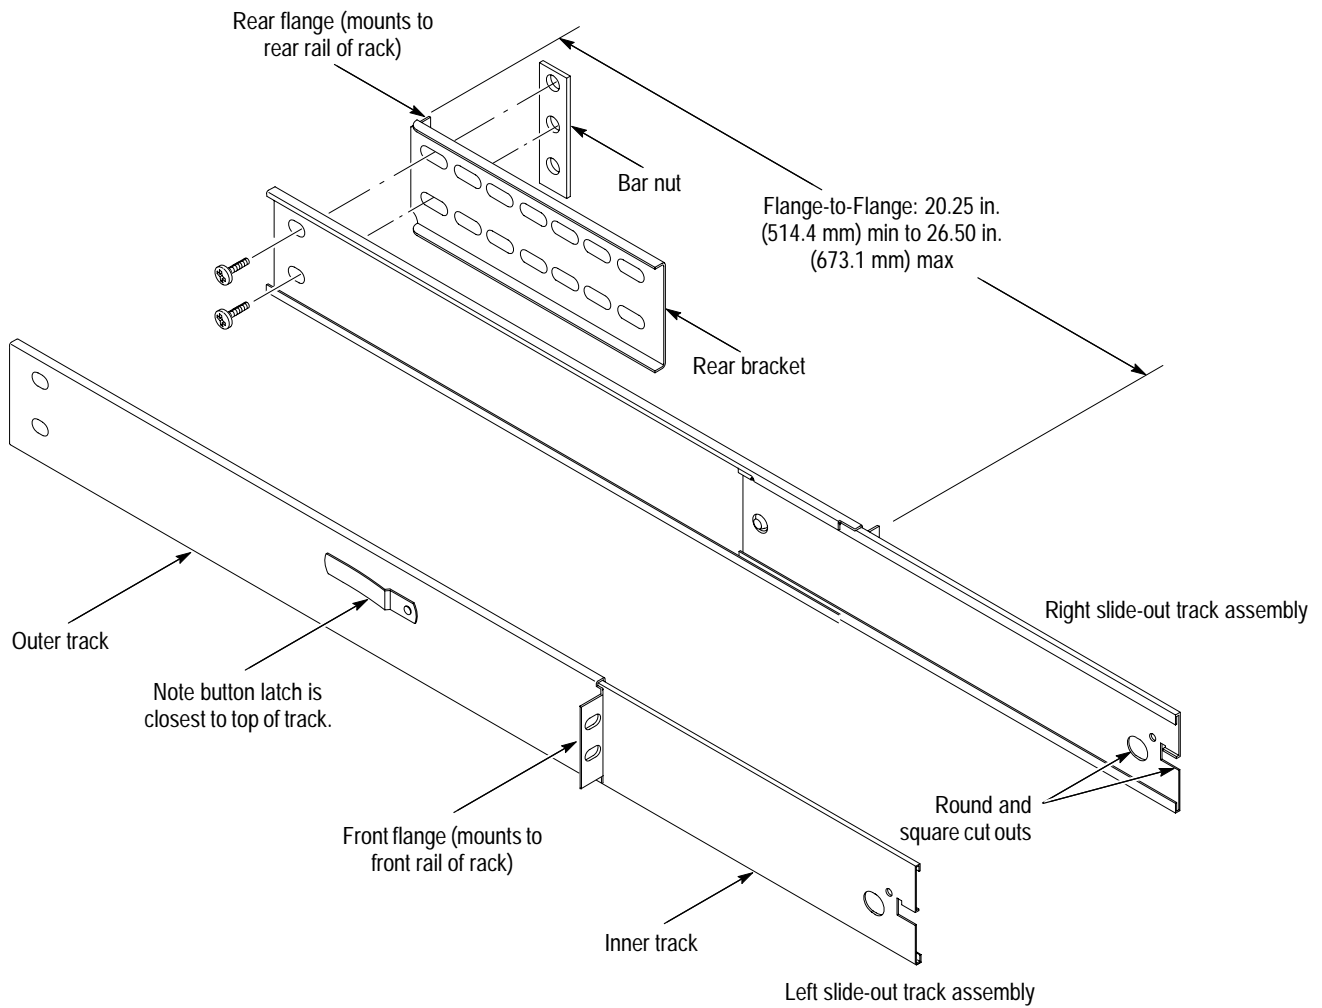

Figure 8: Assembly of slide-out track assemblies
If assemblies are disassembled, use Figure 8, page 16, to match left and right slides. (Note that when the left and right tracks are oriented as shown, the round cutout is below the square cutout at the end of the both inner tracks.)
- c. Align the rear bracket to the right slide-out track as shown in Figure 8. Note the rear bracket has multiple pairs of mount-through holes. When aligning the bracket and track, be sure to select a pair of holes that mount the rear bracket so that the flange-to-flange distance (see figure) matches the front-rail to rear rail spacing of the rackmount rack just measured.